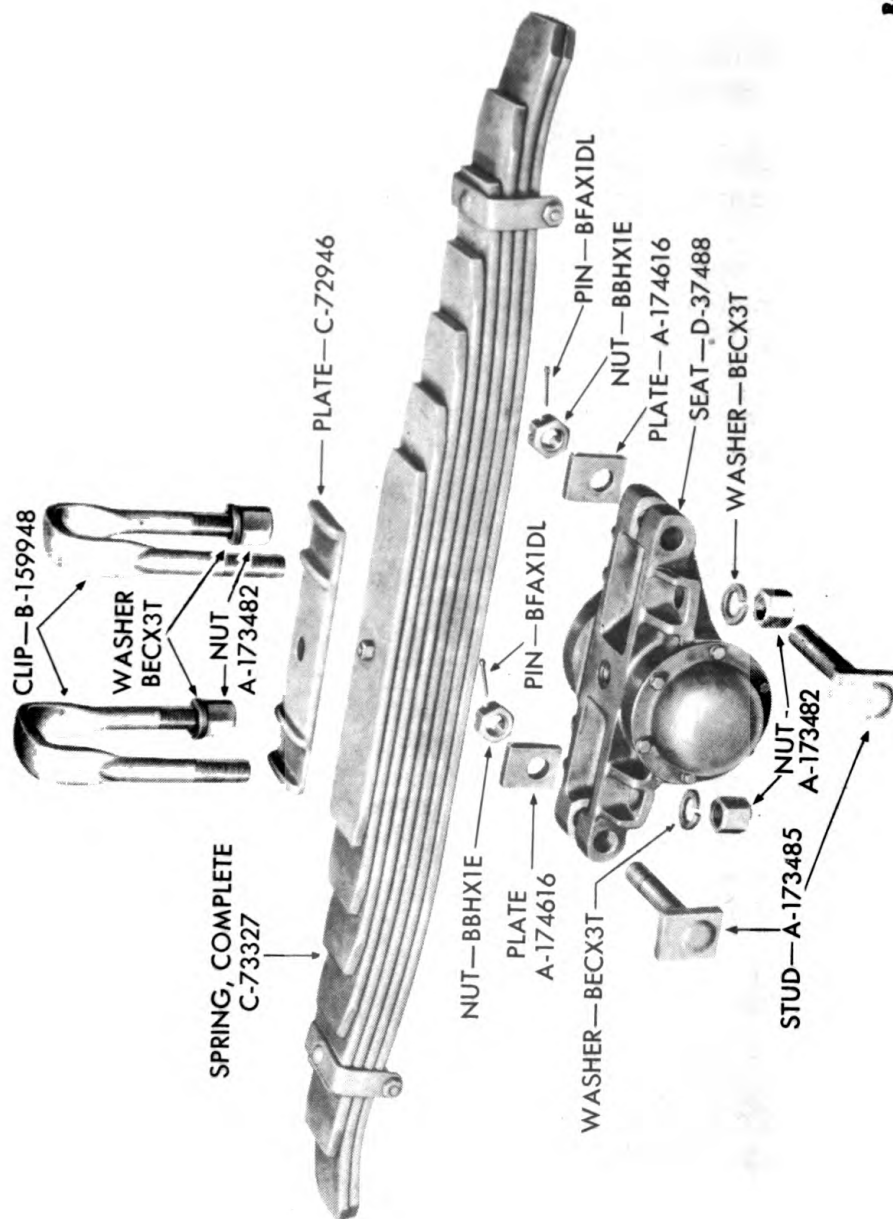

Figure 278—Bogie Spring Assembly—Exploded View
(1) Place bogie spring in place on spring seat. Place bogie spring clip plate on top of spring (fig. 278).
(2) Coat threads of spring clips with COMPOUND, rust-preventive, light. Tap two spring clips down over bogie spring clip plate, springs, and through spring seat. Secure clips in place with nuts and lock washers.
(3) Coat threads of two bogie spring seat studs with COMPOUND, rust-preventive, light, and, from the outside, insert studs in place in spring seat.
(4) Place bogie spring seat stud plates on studs. Screw nuts on studs, and secure with cotter pins.